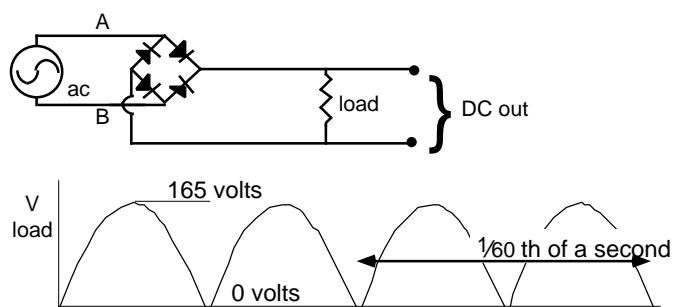

Figure 3c: A full-wave rectifier
(figure 3c). Pretty tricky, huh? Follow the circuit yourself to see how it works. Imagine a positive voltage on the top ac wire (A), and decide which diodes will conduct, then imagine the positive voltage on the bottom ac wire (B) and look at which diodes will conduct.